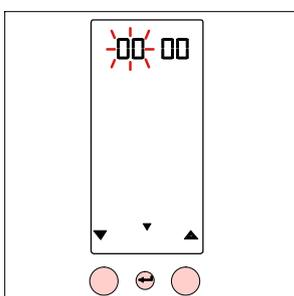

Fig. 27 Set current time
- When the timer (CL) is set at ON, it is possible to switch the machine on and off at a maximum of four various times. Only during these times hot beverages can be poured from the machine. Only hot water can be poured at all times! If the setting is changed to ON, the current time has to be set, see fig.27 . This time will appear as default on the display. To set the various times, go to point 12.